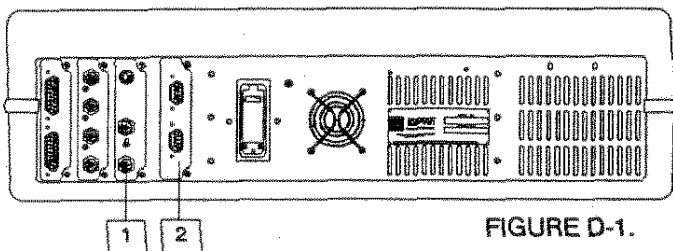

FIGURE D-1.
- STEP 2. Please refer to Figure D-1 for the proper optional module slot position.